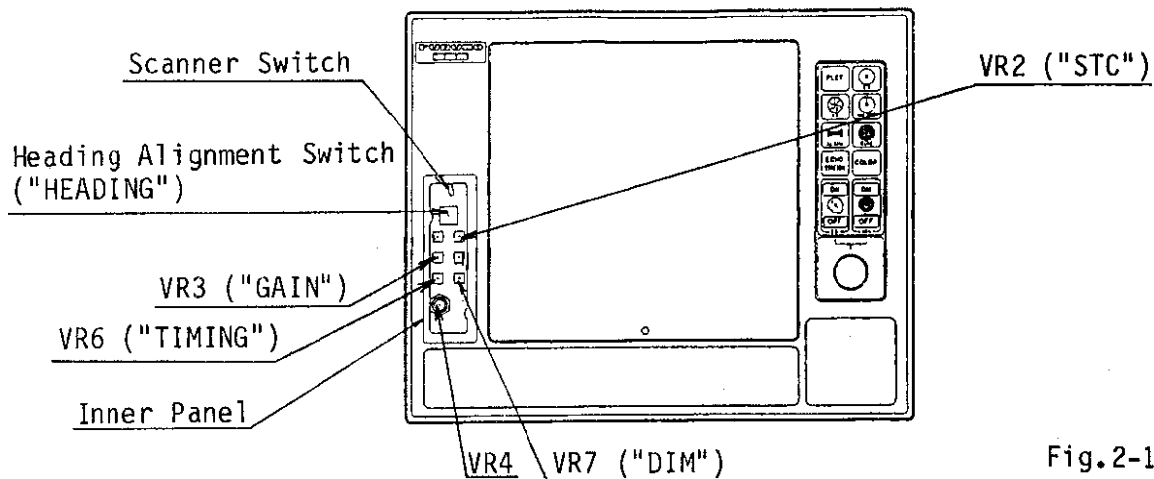
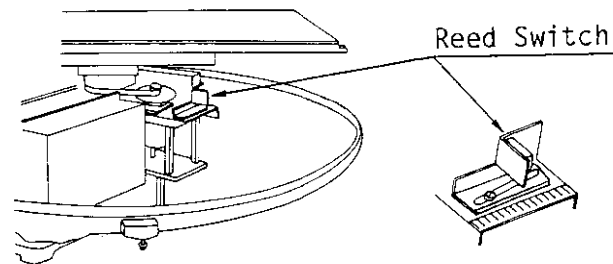

Fig.2-1
Fig.2-4
2. Adjust potentiometer VR4 inside the inner panel (Fig.2-1), located at the left hand side of the display unit, so that a comparatively weak long range echo is discerned with maximum definition.
3. Adjust potentiometer VR6 (Fig.2-1) so that the straight object appears straight with no "pushing" or "pulling" near the center of the picture. See Fig.2-2.
6. The bearing of the target from the heading flash on the screen should be the same as that found on the navigational chart or the visual measurement. If there is a difference between them, adjust the Heading Alignment switch inside the inner panel in the display unit (Fig.2-1) to compensate for the difference (adjustable $\pm 5^\circ$).
NOTE: When adjustment can not be completed by the Heading Alignment switch, turn off the scanner switch (Fig.2-1) to suspend antenna rotation and change the position of the reed switch in the radome (Fig.2-4), then readjust the Heading Alignment switch. This should be made if the scanner unit is installed with a large error in direction.
3. Adjust potentiometer VR3 inside the inner panel (Fig.2-1) so that a little background noise (white noise) appears on the screen.
4. Adjust potentiometer VR2 inside the inner panel (Fig.2-1) so that the effective range of the sea clutter is 4 to 7 n.m.
Note that the illumination of the touchpads/front panel can be adjusted by the illumination pot. (VR7, "DIM") in the inner panel. See Fig.2-1. Clockwise turning of VR7 will increase the illumination.